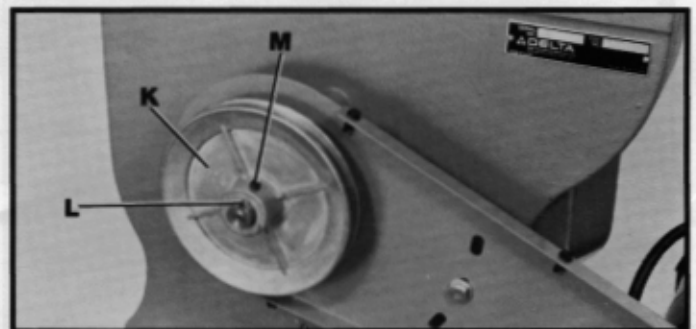

Fig. 18
5. Assemble the arbor pulley (K) Fig. 18, to arbor shaft with hub of pulley in the "out" position. Insert key (L) in keyway of arbor shaft and tighten set screw (M).